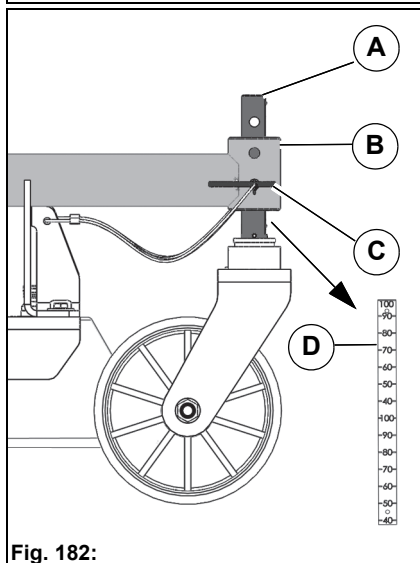

Fig. 182:
2. Pull out the mounting bolt **Fig. 182-C** and push the bolt **Fig. 182-A** of the wheel fork into the bush **Fig. 182-B** of the wheel spar until the wanted cutting height is set. You can adjust the cutting height centimetre by centimetre with the two mounting holes in the bush.
3. You can read off the cutting height on the scale **Fig. 182-D**.